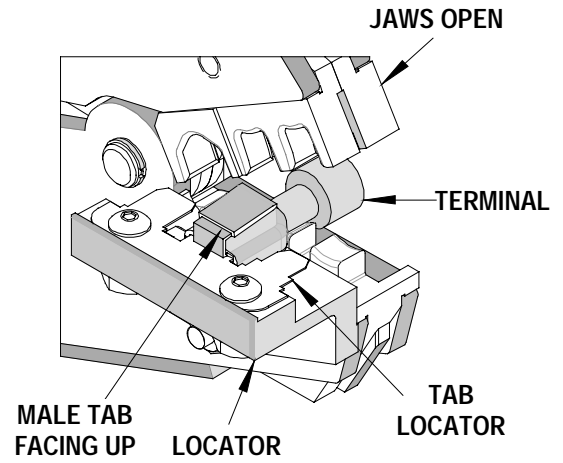

Figure 1
1. Push the terminal onto the tab locator all the way to the stop in the proper color-coded nest. The male tab of the terminal should be up. See Figure 1.